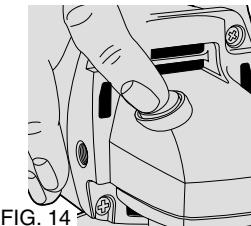

FIG. 14
4. Rotate the spindle by hand while pressing the spindle lock button until the spindle locks, preventing the spindle from rotating. (FIG. 14).
4. Rotate the spindle by hand while pressing the spindle lock button until the spindle locks, preventing the spindle from rotating (Fig. 14).